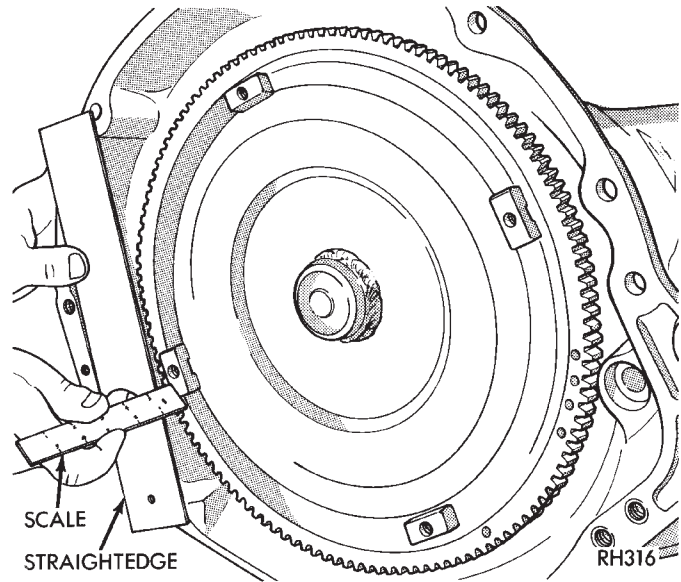

Fig. 17 Checking Torque Converter Seating
(3) Align torque converter to oil pump seal opening.
(4) Insert torque converter hub into oil pump.
(5) While pushing torque converter inward, rotate converter until converter is fully seated in the oil pump gears.
(6) Check converter seating with a scale and straightedge (Fig. 17). Surface of converter lugs should be 1/2 in. to rear of straightedge when converter is fully seated.
(7) If necessary, temporarily secure converter with C-clamp attached to the converter housing.
(8) Install the transmission in the vehicle.
(9) Fill the transmission with the recommended fluid.